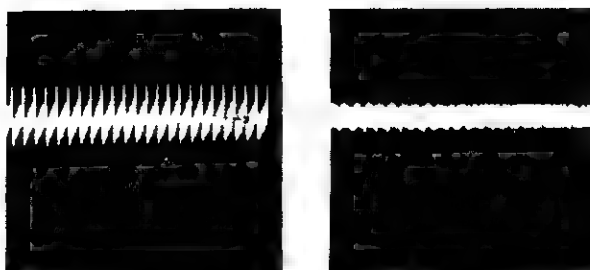

*Fig. 4-5. — Waveforms Luminance Null Adjust*
3. Adjust R3328 for minimum chroma information (Fig. 4-5).